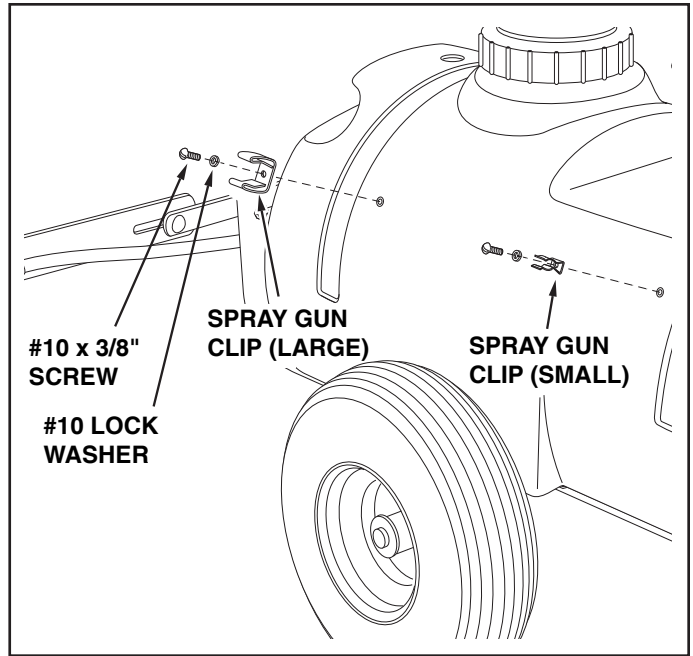

FIGURE 7
12. Assemble the large and small spray gun clips to the side of the tank using two #10 x 3/8" screws and #10 lock washers. See figure 7.